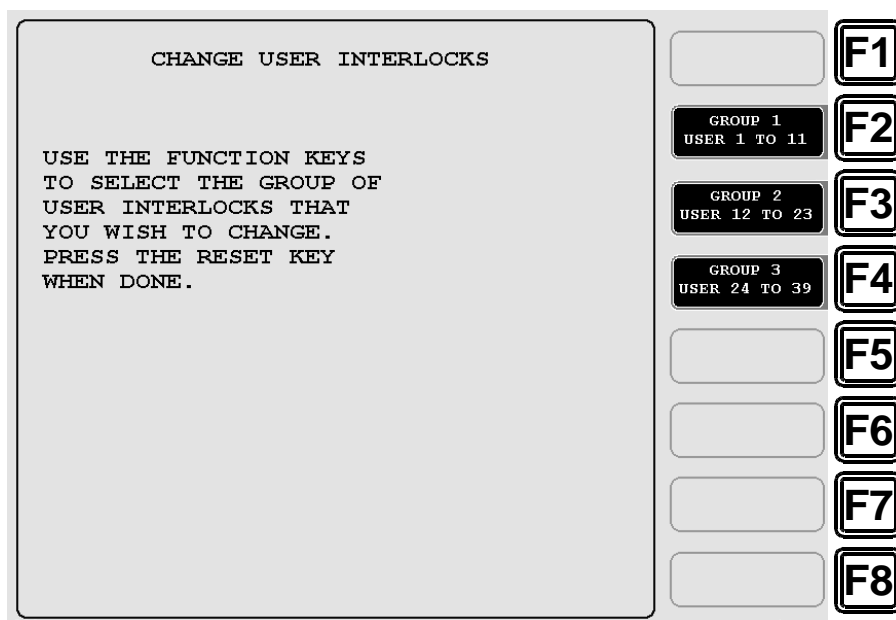

Figure 6. Change User Interlocks Screen
2. On the WPC Initialization Menu, press ENTER with USER INTERLOCKS highlighted. The Change User Interlocks screen, shown in Figure 6, below, displays.